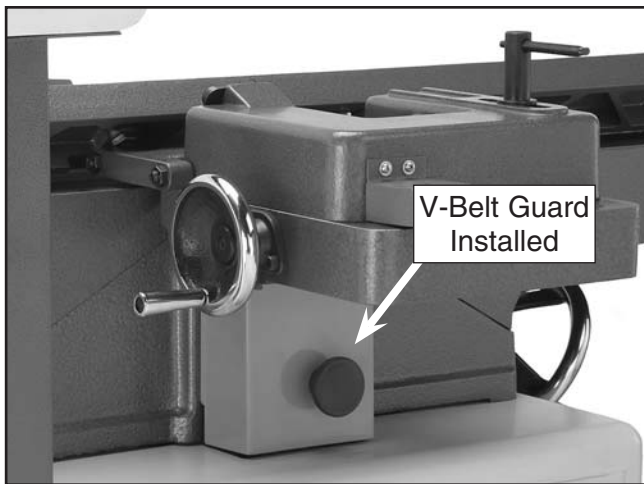

Figure 8. V-belt guard installed.
8. Replace the access cover on the stand and the V-belt cover on the jointer, as shown in **Figure 8**.